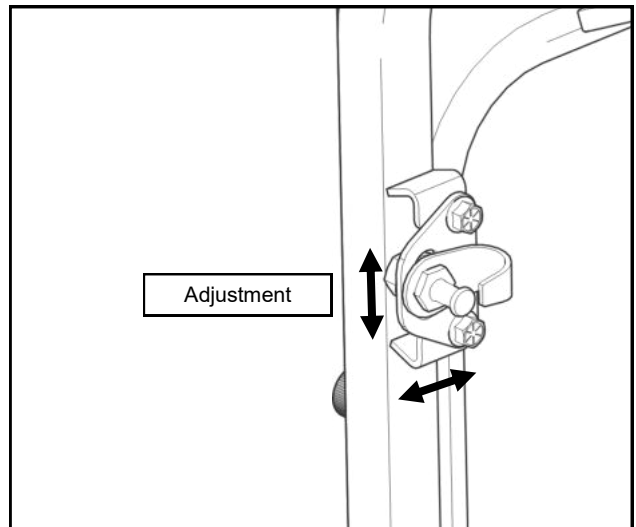

Fig. 23.3 (Striker Pin Adjustment)
**23.3** Stand back and examine the alignment of the door with the roof and the A-pillar. You can adjust this by moving the striker pin up or down as shown in fig. 23.3 to help with alignment. *TIP: In the final step, the front of the door will drop a small amount the first time you open it. Set the front of the door a little bit higher so it aligns properly.* Adjust as necessary until you are happy with the alignment. Have an assistant sit inside the cab and once more carefully close the door like you did in step 23.2. Work with the assistant and tighten the hinge bolts.
**23.4** Open the door and check for smooth operation of the latch. As noted in step 23.3, the door will likely drop a little bit at the front and the striker pin will need to be adjusted down accordingly. Also make sure the door seal is making contact along the perimeter of the door and the latch clicks twice when closing. If necessary adjust the striker in or out to achieve this (see Figure 23.3).